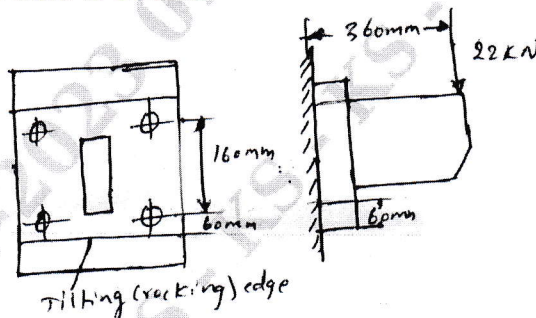

Fig.Q9(b)
b. A bracket is bolted as shown in Fig.Q9(b). All the bolts are of same size and are made of steel having allowable tensile stress of 90 MPa and allowable shear stress of 52 MPa. Determine the size of the bolts to be used.